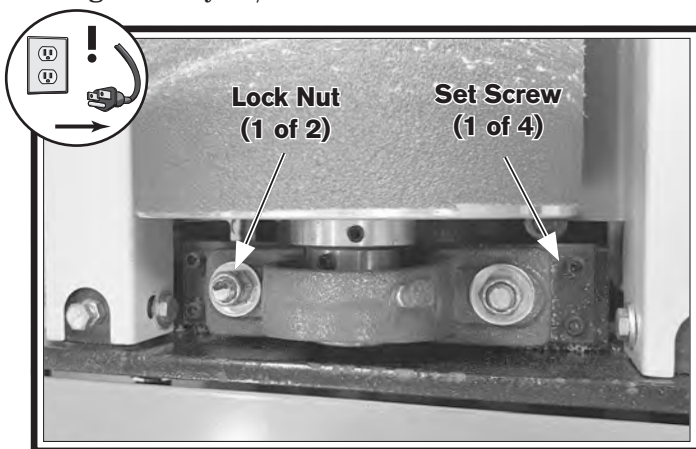

Figure 43. Bearing block components.
3. Raise or lower bearing block by rotating set screws (see **Figure 43**). Turn very gradually— $\frac{1}{8}$ turn or less.